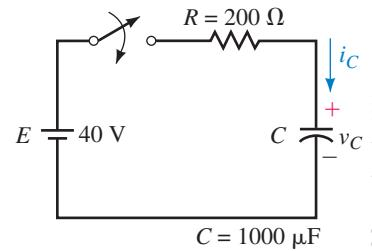

FIGURE 11-16
Suppose the capacitor of Figure 11-16 has 25 volts on it with polarity shown at the time the switch is closed.
- Repeat Example 11-7 for the circuit of Figure 11-16 if $V_0 = -150$ V.